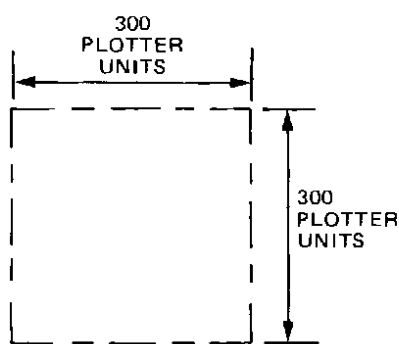

Figure 6-18. Variable Dash Line Square
**Result** Draws a four sided box, each side being 300 plotter units in length in variable dash line font. Note that there are two complete pattern lengths in each side of the box. Note also, that the pattern specified starts and stops with a dash which provide a wrap-around effect at the vertices (see Figure 6-18). The plot is shown in Detail H, Figure 6-22.